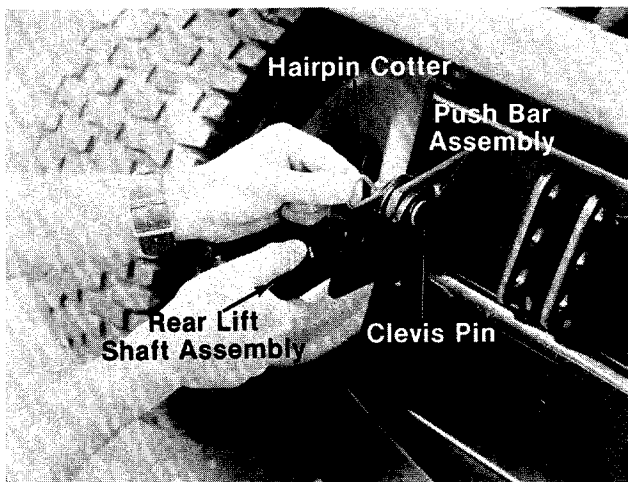

FIGURE 5.
1. Raise the lift shaft assembly until the hole in it lines up with the slot in the push bar assembly. See figure 5.